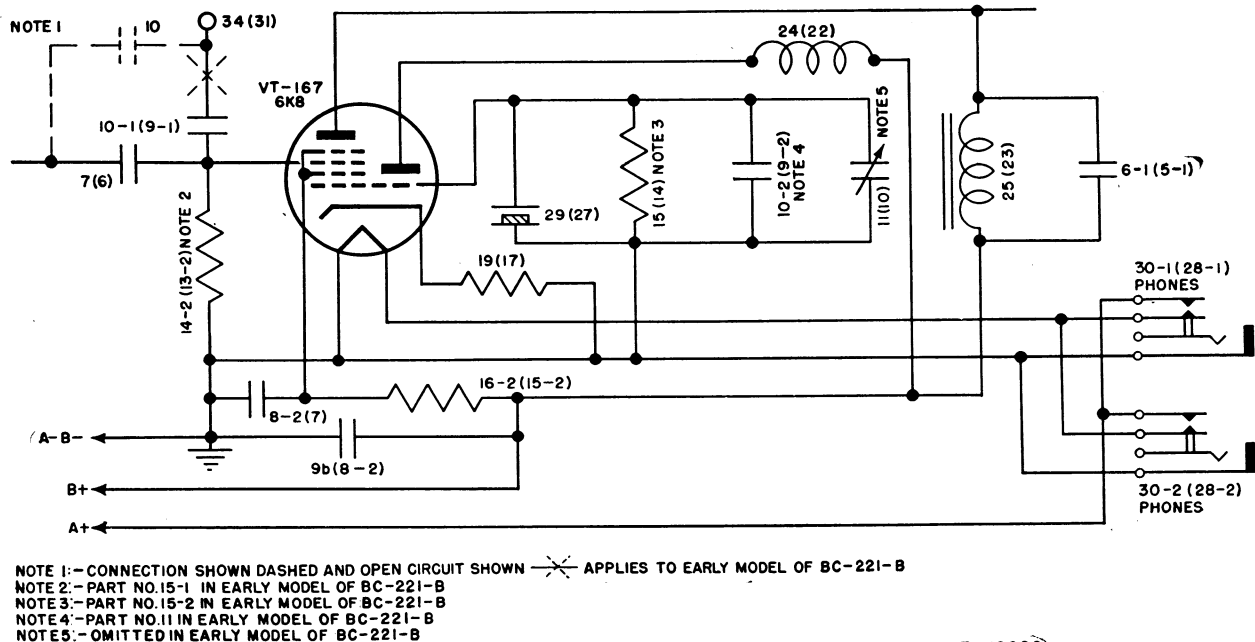

Figure 37 Frequency Meter BC-221-(2), functional diagram, crystal-oscillator circuit.
The crystal circuit uses the triode section of Tube VT-167 (6K8) shown in figure 37. The oscillator operates at the fixed frequency of 1,000 kc when the operation switch 27 (26) is placed in the CRYSTAL or CHECK position. The operation switch controls the crystal oscillator by opening or closing its plate voltage circuit. The oscillator circuit is designed to generate considerable harmonic energy so that it can be used to calibrate the variable frequency oscillator at several points over its entire range, as well as to supply whole multiples of 1,000 kc for the calibration of receivers and similar equipment. The necessary plate circuit impedance is built up across an untuned inductance 24 (22), inclosed in a metal can. Resistor 15 (14), part No. 15-2 in the early model BC-221-B, is the oscillator grid leak and works in conjunction with the tube cathode resistor 19 (17). The variable capacitor 11 (10) is connected across the crystal
29 (27) for the purpose of adjusting the frequency of the crystal to a closer point than can be economically obtained by grinding alone. When the frequency meters are adjusted during manufacture, the variable capacitor is set up to produce a frequency of $1,000 \text{ kc} \pm 5$ cycles at 20° centigrade. The fixed capacitor 10-2 (9-2), shunted across the crystal, minimizes any change in fundamental frequency due to small changes in the crystal capacitance. It should be noted, that part No. 11 (10) was omitted from the early BC-221-B, and that part No. 10-2 (9-2) was part No. 11. Further reference to figure 37 shows that the output of the crystal oscillator is electron coupled to the antenna through the No. 3 grid of the hexode section of Tube VT-167 and the capacitor 10-1 (9-1). Note further, that in the case of the early BC-221-B, this connection was made by capacitors 7 (6) and 10 in series. For further details on the crystal oscillator, see paragraph 22.